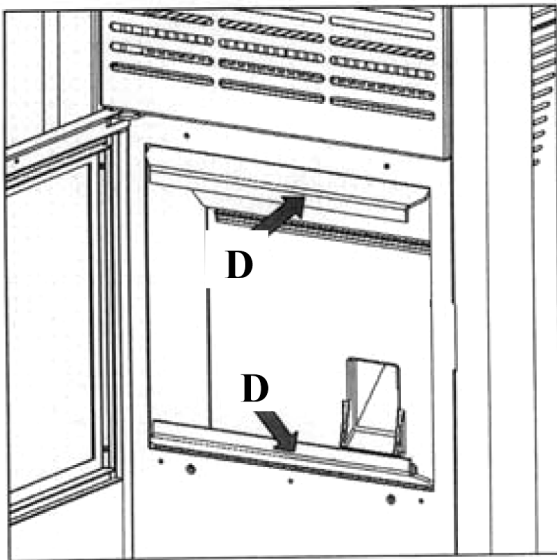
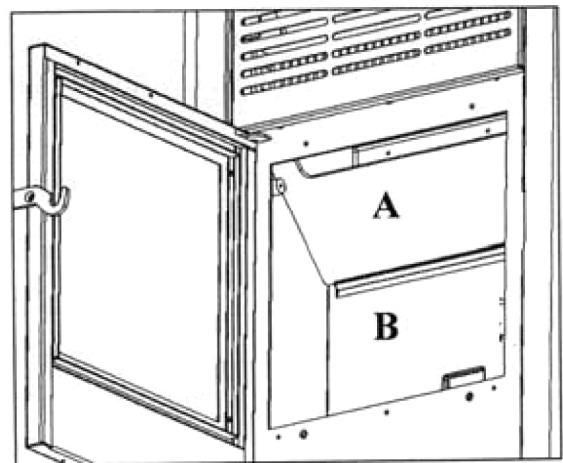
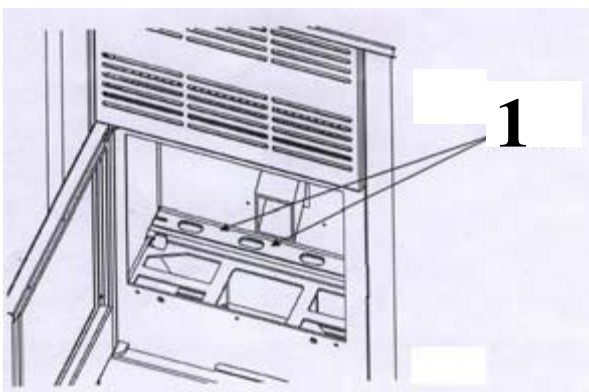

Figure 11
Figure 12
Figure 13
- **Once in two weeks** pull out the upper steel or cast iron plate from the chamber (Figure 12 A) by lifting it, straightening it, lowering it at the height of the chamber opening and by turning it so that one of its ends comes out of the chamber vertically, and then remove the upper plate completely from the chamber and put it by the side of the stove, on the floor. After that, lift up the cast plate in the chamber maximally (Figure 12 B) and vacuum the back part of the chamber behind plate B. You can also perform this cleaning by removing the upper sheet metal deflector in order to clean the glass (Figure 11 D). This sheet metal is fixed with bolts as it is shown in Figure 11 (D). Then pull out the upper steel or cast iron plate (Figure 12 A) and turn and pull out the lower, back cast iron plate (Figure 12 B). Clean the parts, shown in Figure 13. However, we do not recommend this latter manner of cleaning because it may soon cause damages to the threads of the special nuts on the deflector.
For proper cleaning, remove ash from behind the cast plate every two or three weeks, using a vacuum cleaner and turning or removing the plate as shown under item 6.1 (Figures 11, 12 and 13).